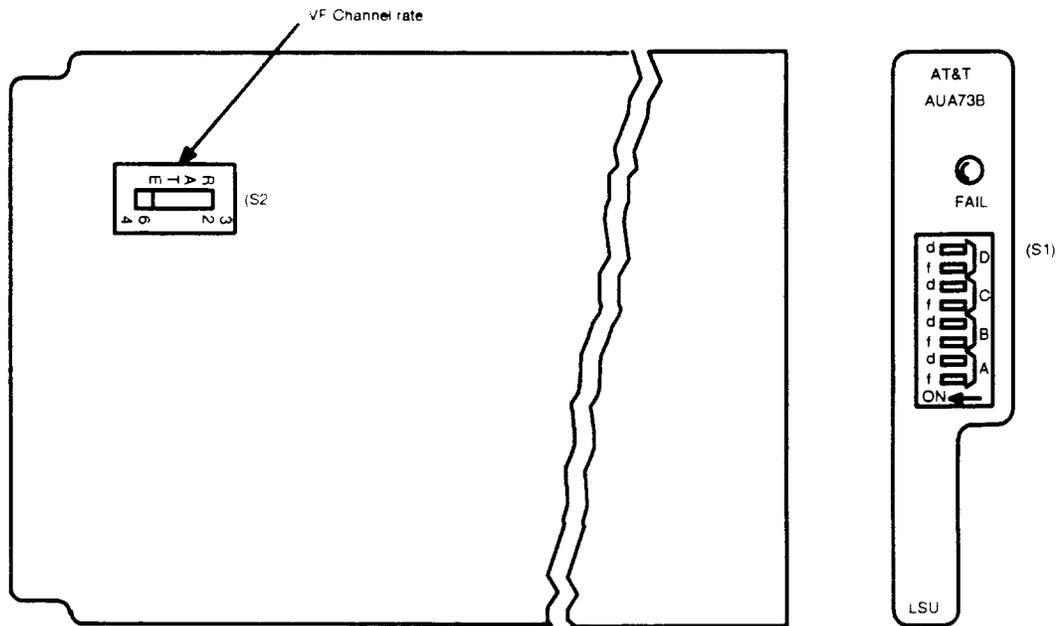

Figure 1 — AUA73 LSU Option Switches
2. Set switch **S2** located on the side of the **LSU** circuit pack (Figure 1) to position **64**.